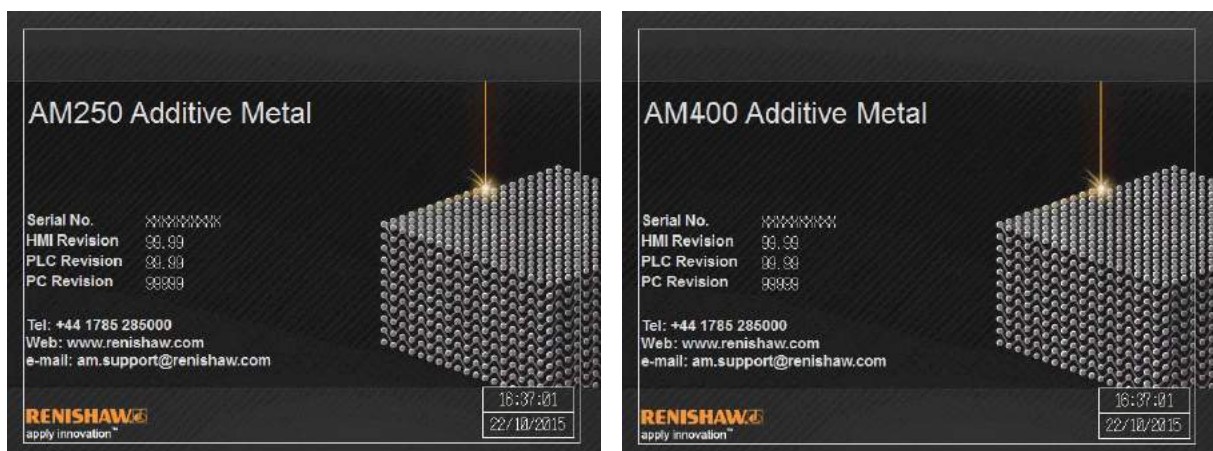

Figure 2 Software welcome screen – AM250 (l) and AM400 (r)
- The system software version on the start screen (Figure 2)